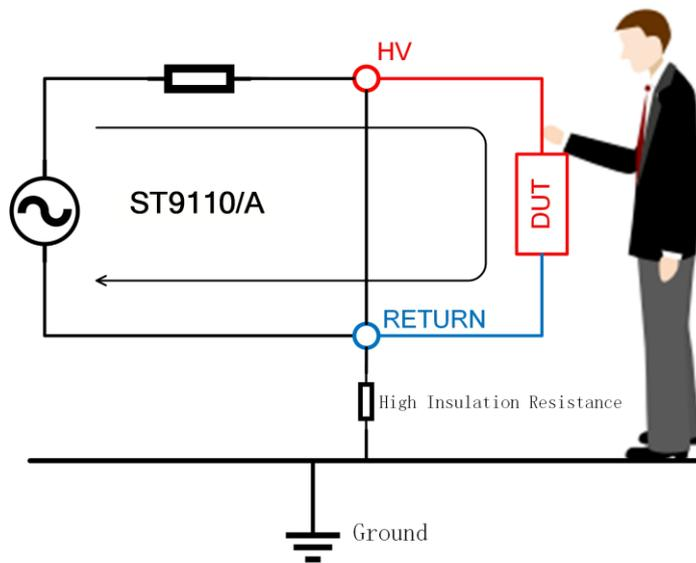
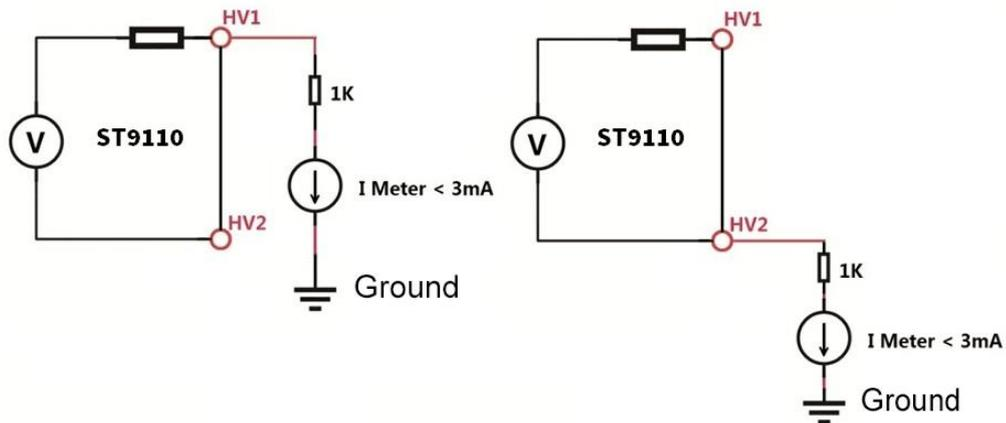

Figure 4-6
Figure 4-7 Relationship of HV1/HV2 Terminal to the Ground
b) When the electric shock protection is set to FLOAT, the high-voltage output high terminal HV1 and low terminal HV2 are in a float state, as shown in Figure 4-6. When the human body accidentally touches the test high voltage terminal, as the low terminal HV2 of the high voltage circuit is not grounded, but isolated from the ground, equivalent to connecting a high insulation resistance, the current through the human body will not exceed 3 mA even if there are charged capacitors in the DUT, thus ensuring the safety of the operator, as shown in Figure 4-7. Be aware that this also can not protect against touching both of the terminals, and that this protection will be void if there is any inadvertent connection to ground or another fixed potential, thus breaking the insulation of the float. Even with intact insulation, avoid having DUTs with a large surface close to a grounded surface, as the resulting capacitance against ground could lead to capacitive coupling, reducing the effectiveness of the potential separation.